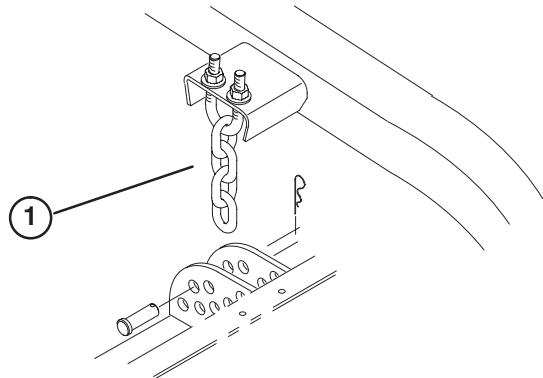

Figure 22
2. Remove hairpin cotter and clevis pin securing height-of-cut chains to rear height-of-cut brackets (Fig. 22).